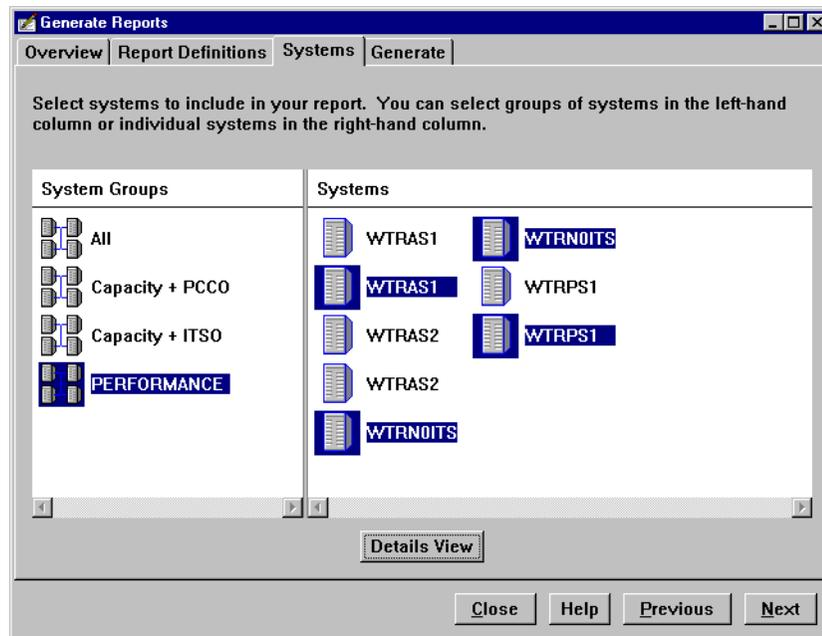

Figure 132. Selecting Multiple Systems Using the Ctrl Key
The next step is to select the systems from which you want the data gathered. Click the **Systems** tab or the **Next** button. Figure 132 on page 171 appears:
- Specific systems within one group, by selecting the group, then the first system you want, then using the Ctrl or Shift keys to select the other systems (as we have done in Figure 132).
Note: The only groups that will be displayed here are the ones with the SVC:CAPMGT defined. If there are no groups listed in Figure 132, then you have either not defined any Netfinity Manager groups with this keyword, or you defined them while the Generate Reports window was open and you did not close and reopen it. See 6.3.1, “Creating Capacity Manager Groups” on page 158 for details on the SVC:CAPMGT keyword.
- Systems — the number of systems that have already responded; 100% is the total number of systems you selected in Figure 132 on page 171.